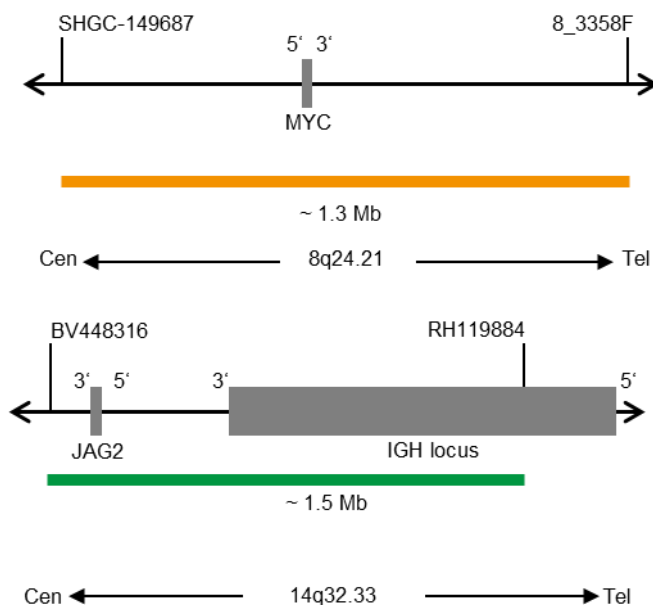

Fig. 1: Top: SPEC MYC Probe map; Bottom: SPEC IGH Probe map (not to scale)
- ZyGreen (excitation 503 nm/emission 528 nm) labeled polynucleotides (~12 ng/μl), which target sequences mapping in 14q32.33* (chr14:105,462,169-106,995,000) harboring the IGH locus (see Fig. 1).
- ZyOrange (excitation 547 nm/emission 572 nm) labeled polynucleotides (~6 ng/μl), which target sequences mapping in 8q24.21* (chr8:128,171,178-129,517,468) harboring the MYC gene region (see Fig. 1).